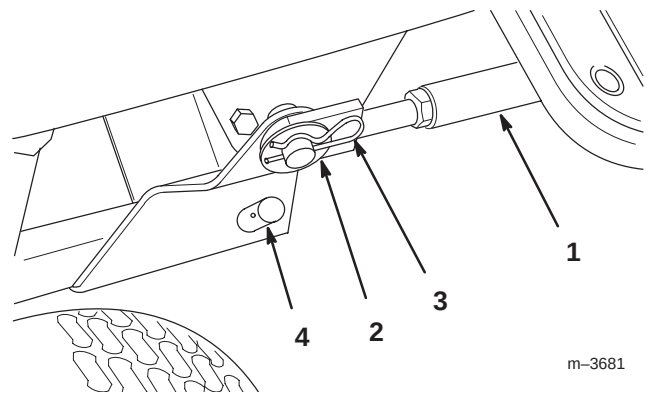

Figure 28
- Remove the crank support by removing the hairpin cotter and clevis pin at its base (Fig. 28), then lifting the support from its mounting post.
- Remove the support braces from the frame rods protruding from the mid Attach-A-Matic hitch by removing the hairpin cottes and washers (Fig. 28).